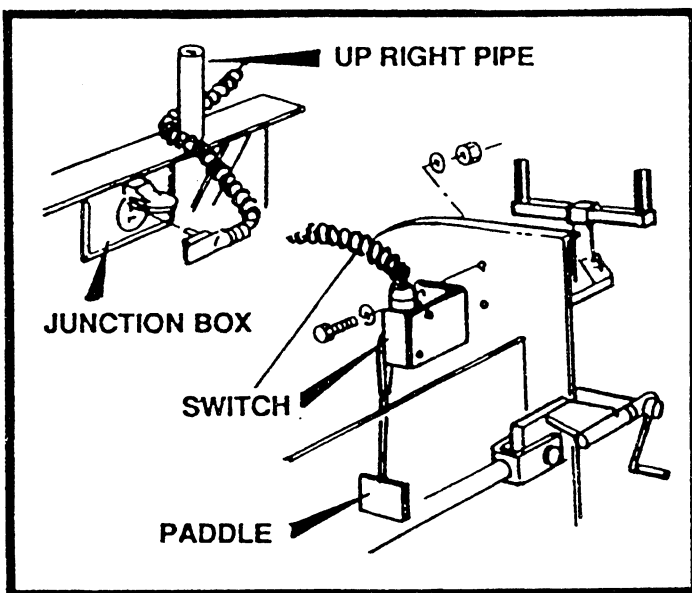

FIGURE 12
1. To install the paddle on the screed extension; extend the screed 6 inches and mount paddle on endgate as shown. Install the same way on left endgate. See figure 12.
NOTE: If your machine does not have an Auger Paddle as shown in figure 12.